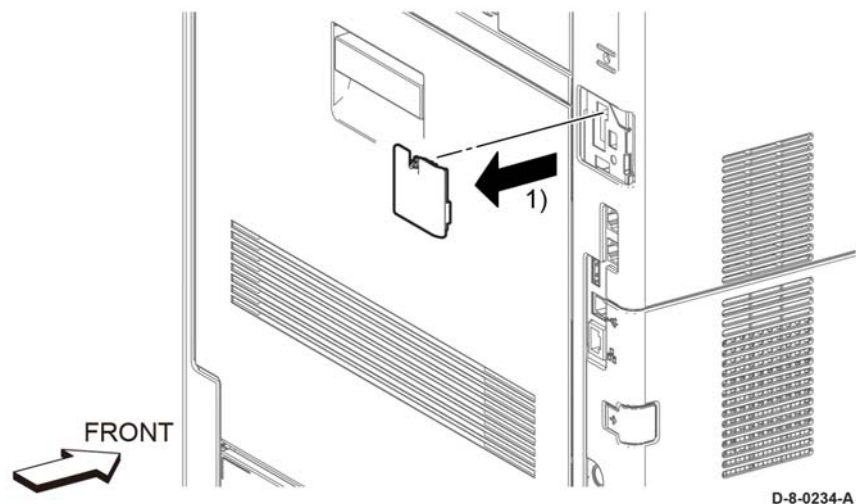

Figure 1 Remove the WIFI cap (C505/C605/C605_Tall)
1. Release the hook and remove the WIFI cap, Figure 1.